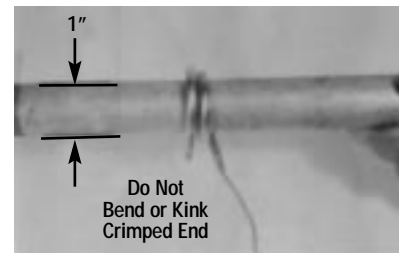

Figure 4
- B. Do not kink capillary tube. The resulting constrictions in fluid flow can destroy control function or broaden temperature differential. Minimum capillary tube bending diameter is 1/2" I.D. (see Figure 4).